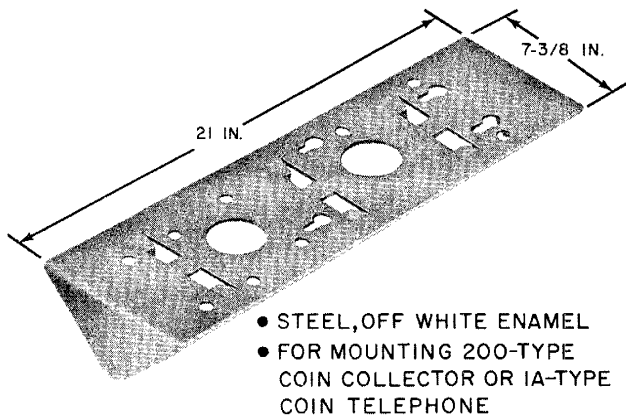

Fig. 2—KS-19340, List 53 Backboard
(1) D-179939 Kit of Parts which includes:
- One KS-19340, List 53 backboard (Fig. 2)
- 3.13 Use KS-19340, List 53 backboard (Fig. 2) four P-40Y060 security studs; and 1/4-20 by 5/8 RHM screws as required.